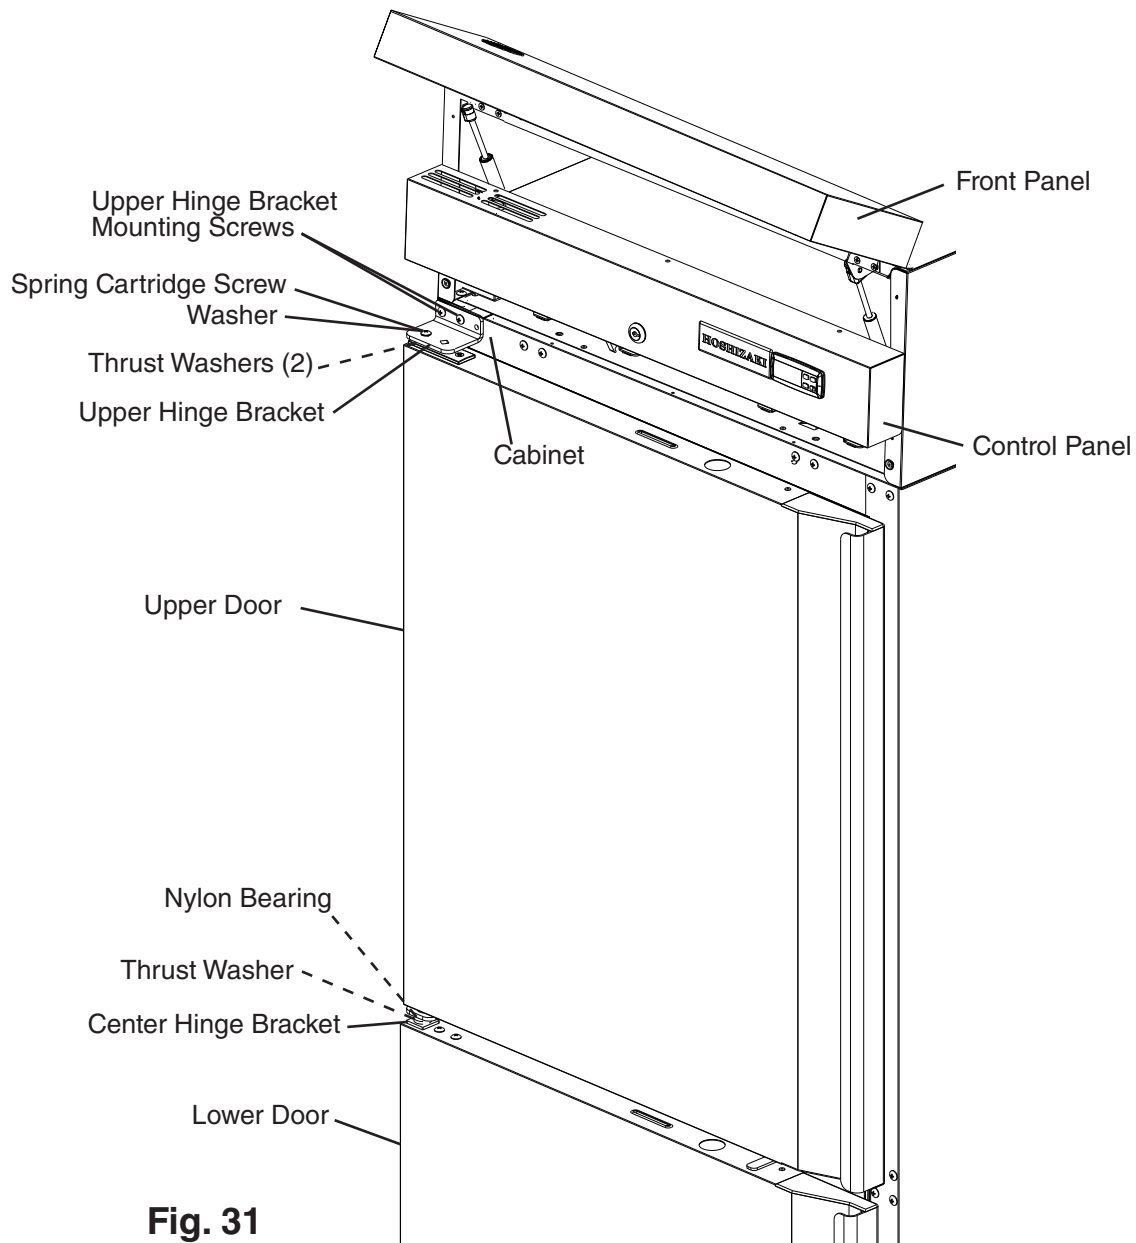

Fig. 31
- 18) With the door in the closed position, place the upper doors nylon bearing onto the center hinge bracket upper pin, then secure the upper hinge bracket to the cabinet with the upper door in the closed position. See Fig. 31.